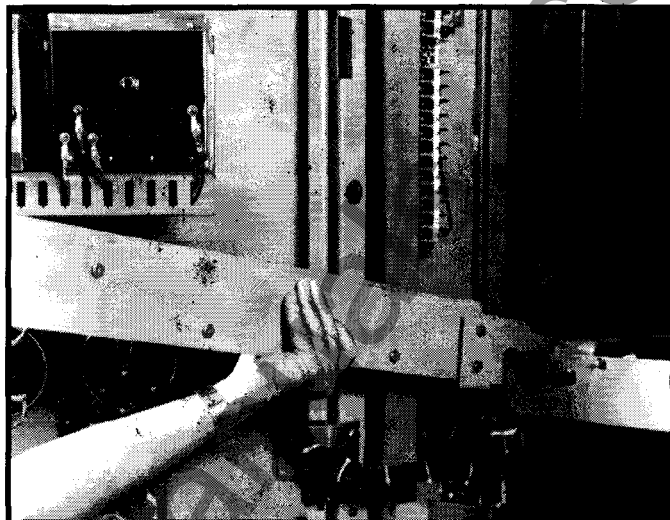

FIG. 3 INSERTION OF DRAW-OUT EXTENSION RAILS
12. Insert draw-out extension rails per figure 3 to install breakers.
- B. Insert extension rails into each side of the auxiliary compartment per figure 3. Turn the two drawer handles and pull the drawer out of the compartment. (Rollers on the sides of the drawers ride on the extension rails.)